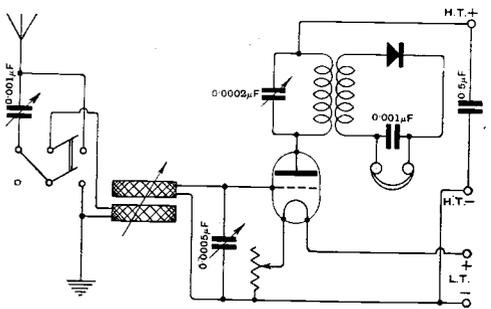

Fig. 6. "C.P.E." (Edgbaston). A single valve amplifier with crystal rectifier.
(1) The diagram referred to represents a very selective form of receiver. Whether it will achieve the results you desire, is very largely a matter for experiment. (2) The plug pin type is to be recommended. (3) The receiver will be suitable for all wavelengths up to about 3,000 metres. (4) The diagram is given in Fig. 6.